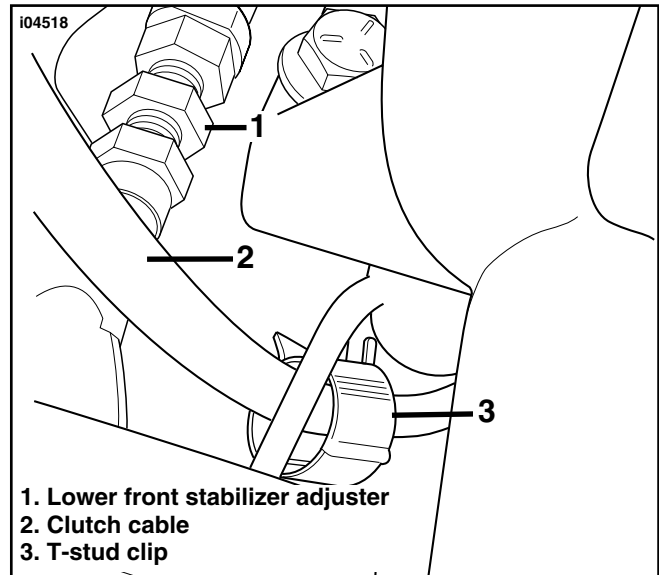

Figure 16. Clutch Cable Attachment
1. See Figure 16. Remove stock t-stud clip that secures stator wires on left end of front engine bracket behind voltage regulator.
2. See Service Parts Illustration. Obtain large Clip (37) from kit. Capture stator wires and clutch cable in larger clip and install clip on t-stud.